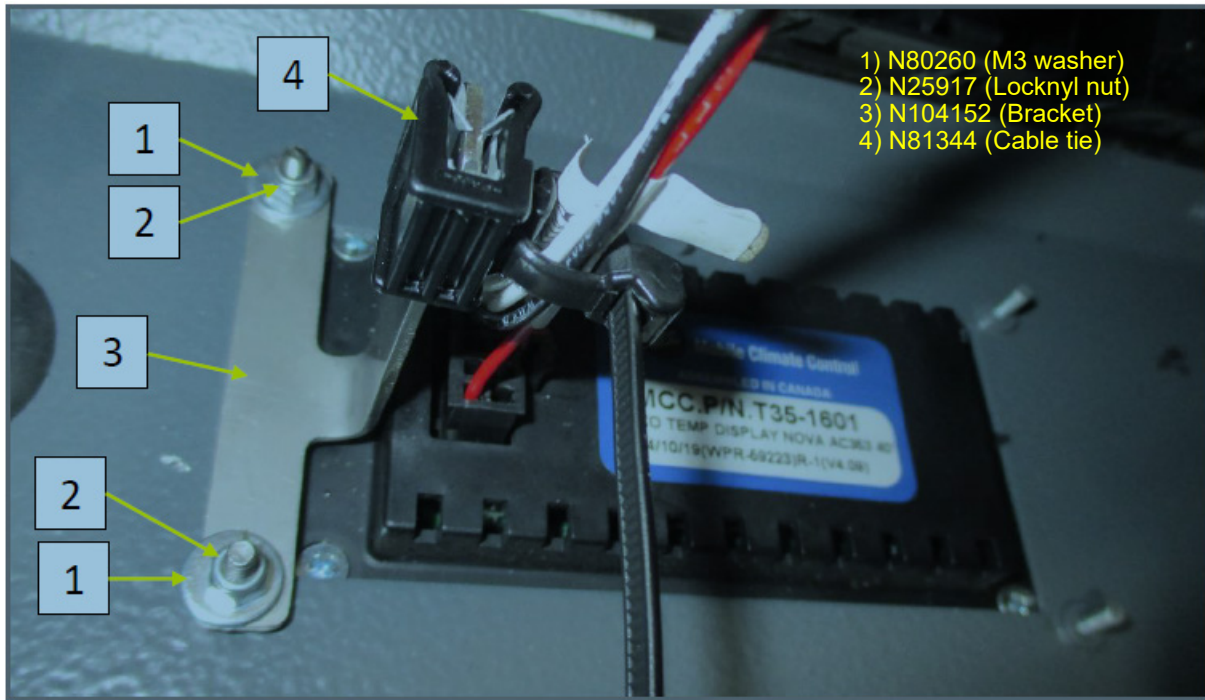

Figure 6 - Bracket Installation
- 1.7. Install the bracket P/N N104152 using the M3 washer P/N N80260 and the M3 Locknyl nut P/N N25917 (see figure 6).
- 1.8. Install the serrated cable tie P/N N81344 using the cable tie, secure the wires (see figure 6).